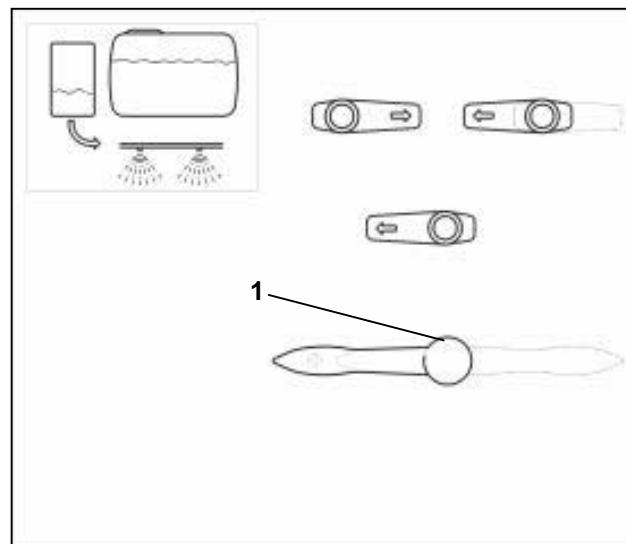

Fig. 7.19
- Bring control tap (Fig. 7.19/1) to position "diluting".